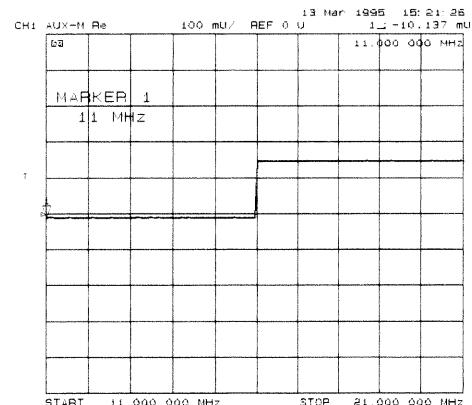

Figure 3-22. High/Low Band Transition Adjustment Trace
- If the left half of trace = 0 ± 1000 mV and right half of trace = 100 to 200 mV higher (one to two divisions, see Figure 3-22): no adjustment is necessary.